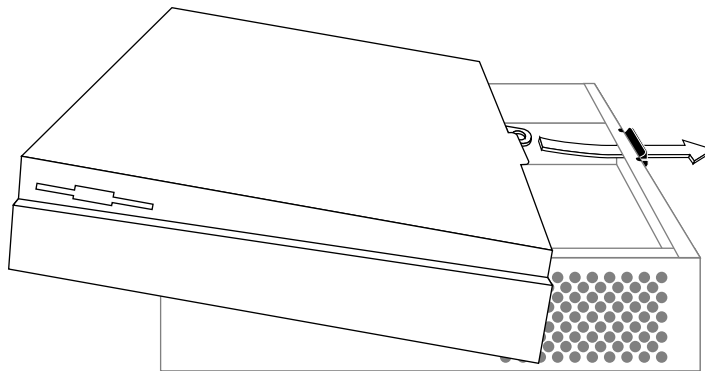

Figure 4-7 Replacing the Indy chassis cover
1. If you have no more options to install, replace the top cover: facing the front of the system, lower the cover about one inch from its fully closed position, as shown in Figure 4-7.